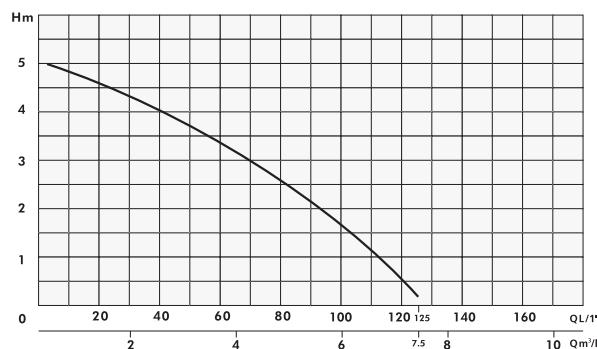

Fig.1
- Slide the handle for carrying and suspending the pump into the grooves as shown in Fig. 1 to secure it in place (it will click in), otherwise the pump suspended by the handle could fall into the pumped liquid.